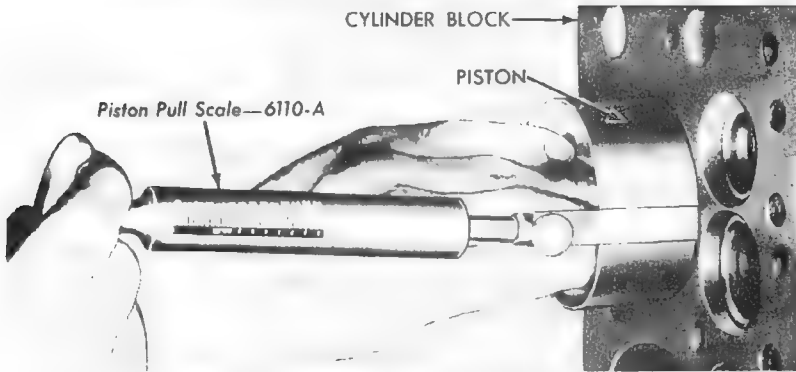

Fig. 43—Fitting Piston to Cylinder Bore
b. **Fitting Pistons.** To check the clearance of a piston in a cylinder bore, use a thickness gauge $\frac{1}{2}$ inch wide and long enough to cover the entire length of the piston. Attach the gauge to a tension scale. Place the gauge on the side of the piston bore (fig. 43). Invert piston, then push in cylinder until piston is flush with cylinder head. Make certain thickness gauge is 90 degrees (right angle) from the piston pin hole. Withdraw gauge and observe reading on the piston pull scale. The thickness of the gauge to be used and the pounds pull for various combinations of pistons and cylinder bores are shown in fig. 44.